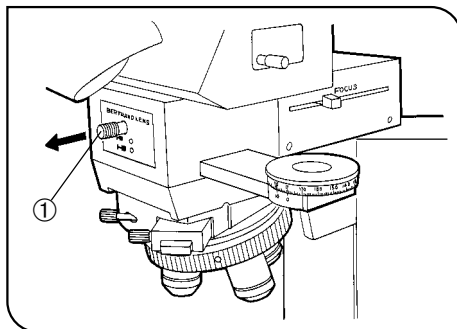

Fig. 25
2. Pull out the Bertrand lens knob ① to the OUT (O) position. (Fig. 25)
5. Push in the Bertrand lens knob ① to the IN (●) position for conoscopic observation.